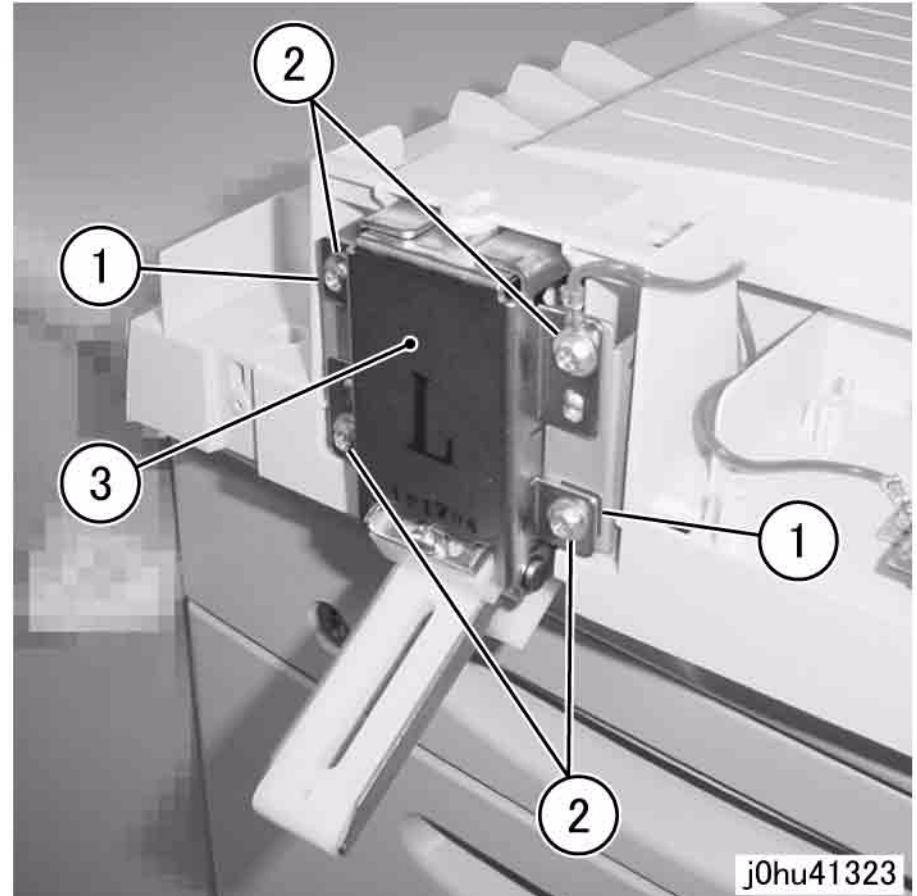

Figure 2 Remove Left Counter Balance
4. Remove the screws that secure the Left Counter Balance (Figure 2).